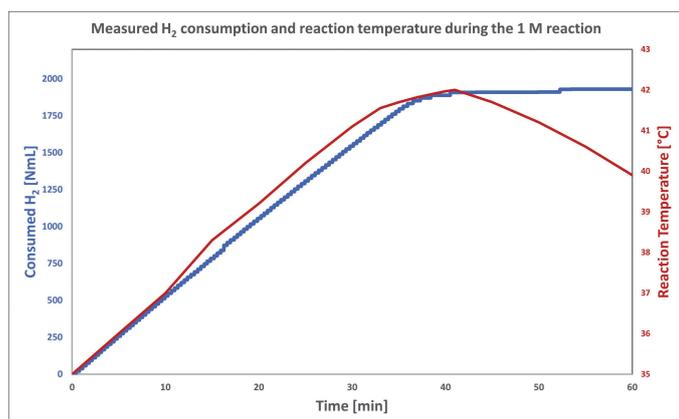

Figure 1: Reaction monitoring based on the H-Genie's consumed hydrogen function and temperatures recorded by the Premex Apart reactor.
**Monitoring** both the **reaction temperature** and **hydrogen consumption** enabled reliable determination of reaction completion. As shown in **Figure 1**, the reaction was considered complete at approximately **41 minutes**, as indicated by the onset of a temperature plateau and the absence of further hydrogen uptake.